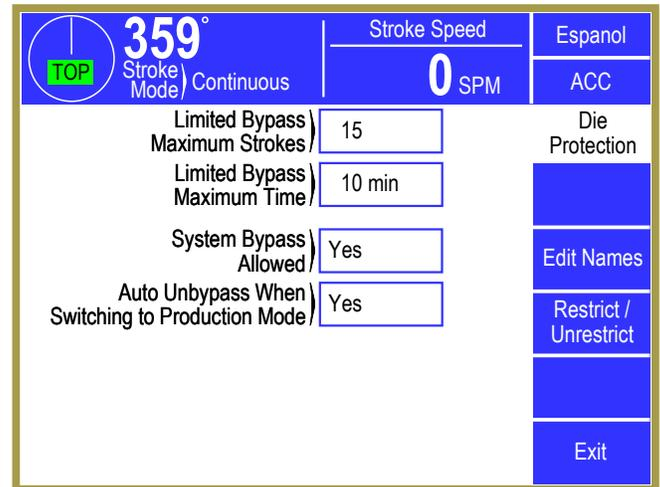
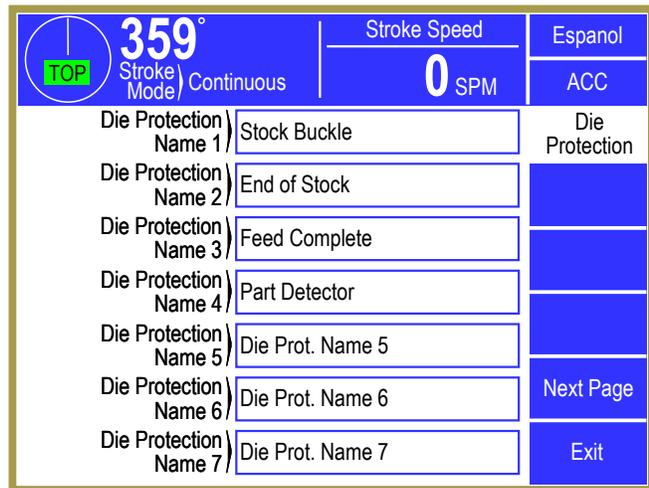
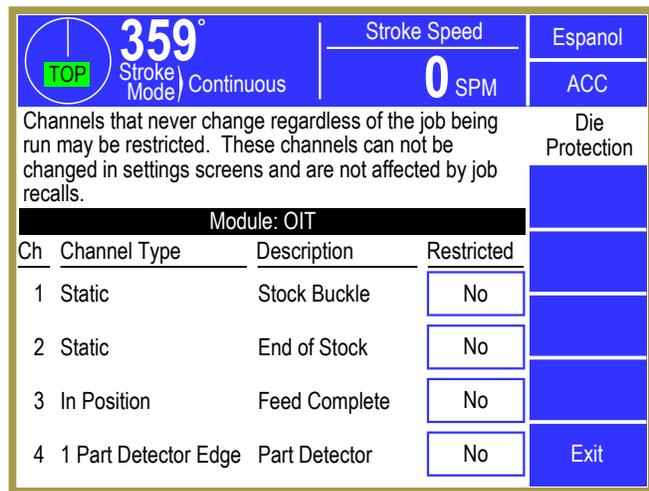

Figure 105: Die Protection Configuration Main Screen
Figure 106: Die Protection Edit Names Screen
Figure 107: Die Protection Restrict/Unrestrict Screen
- After the code is entered correctly, the screen of Figure 105 will be displayed.
Press the **Edit Names** softkey (shown in Figure 105) to display the screen of Figure 106. Use the **Previous Page** and **Next Page** softkeys to page through the entire list of 64 names. Touch inside the blue border of a name to change it.
Press the **Restrict / Unrestrict** softkey (shown in Figure 105) to display the screen of Figure 107. Use the **Previous Page** and **Next Page** softkeys, if displayed, to page through the channels.